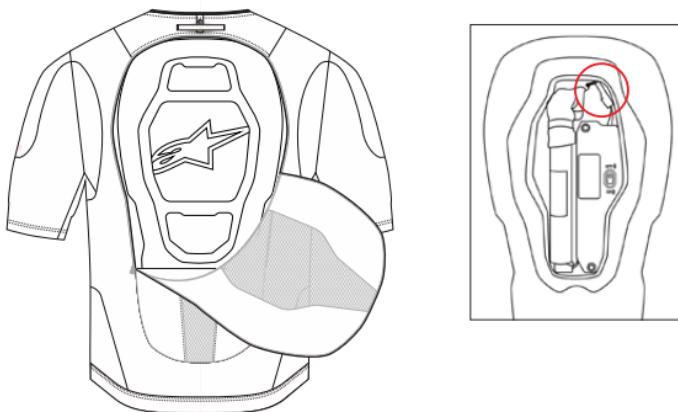

Figure 23: Disconnect the LED Display (3)
1. Disconnect the LED Display (3) – First, place the System on a flat surface preferably on top of a workbench or table, with the front of the System facing downwards. Access the Back Protector (4) by opening the zip located on the back side of the System. Open the cover with the Velcro closure on the Back Protector (4) and disconnect the LED Display (3) connector as indicated in Figure 23.